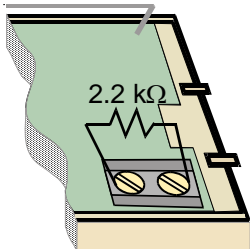

Figure 5 - EOL Resistor Connection
- If the external contacts will not be used, connect a 2.2 kΩ EOL resistor across the terminals (refer to Figure 5).